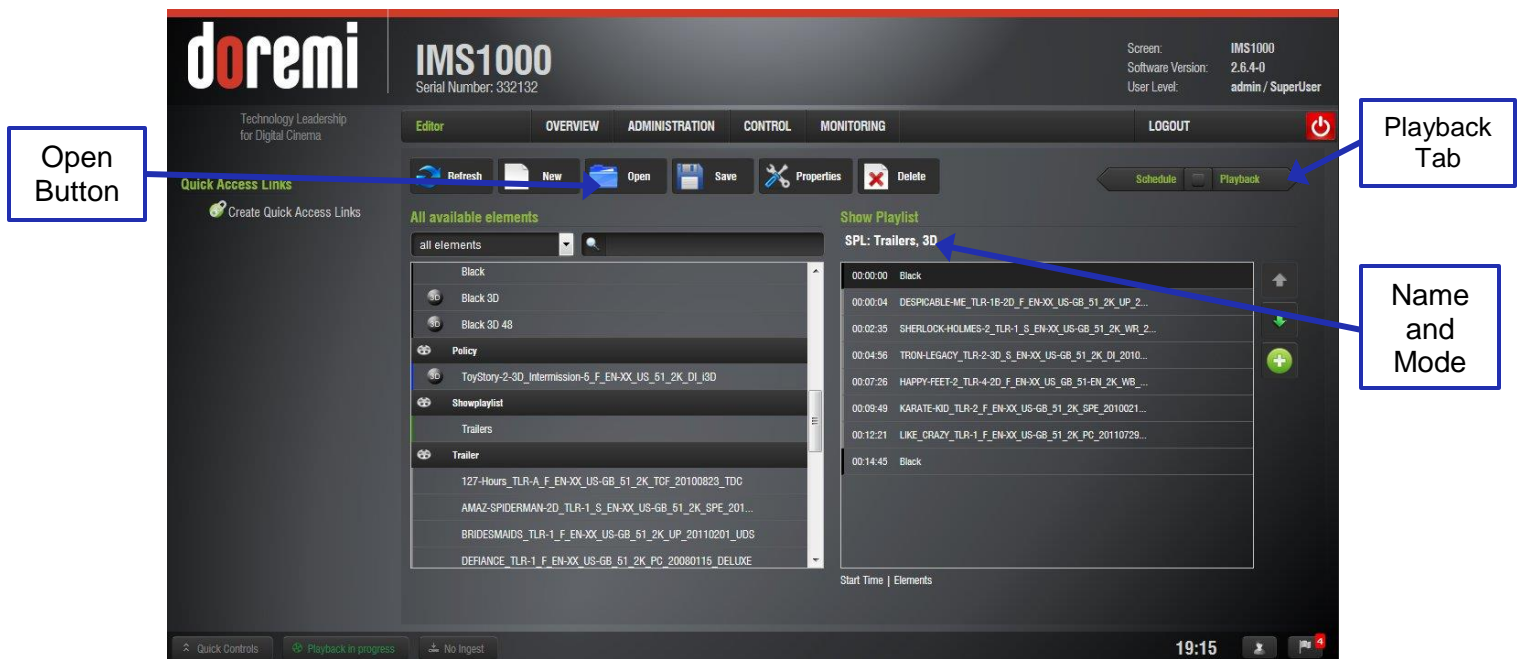

Figure 240: SPL Set to 3D
- The Show Playlist Properties button will reflect the name of the SPL and what mode it is set to (Figure 240).